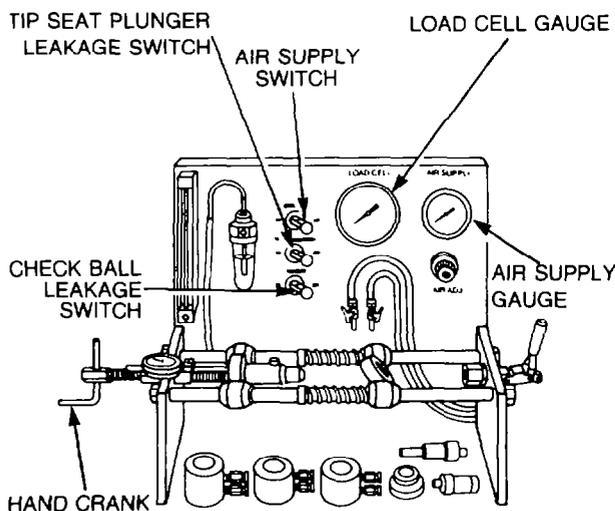

Figure 111 — Load Cell Gauge
- f. Turn the tester hand crank in a clockwise direction until the load cell gauge (see Fig. 111) reads 1379 kPa (200 psi).